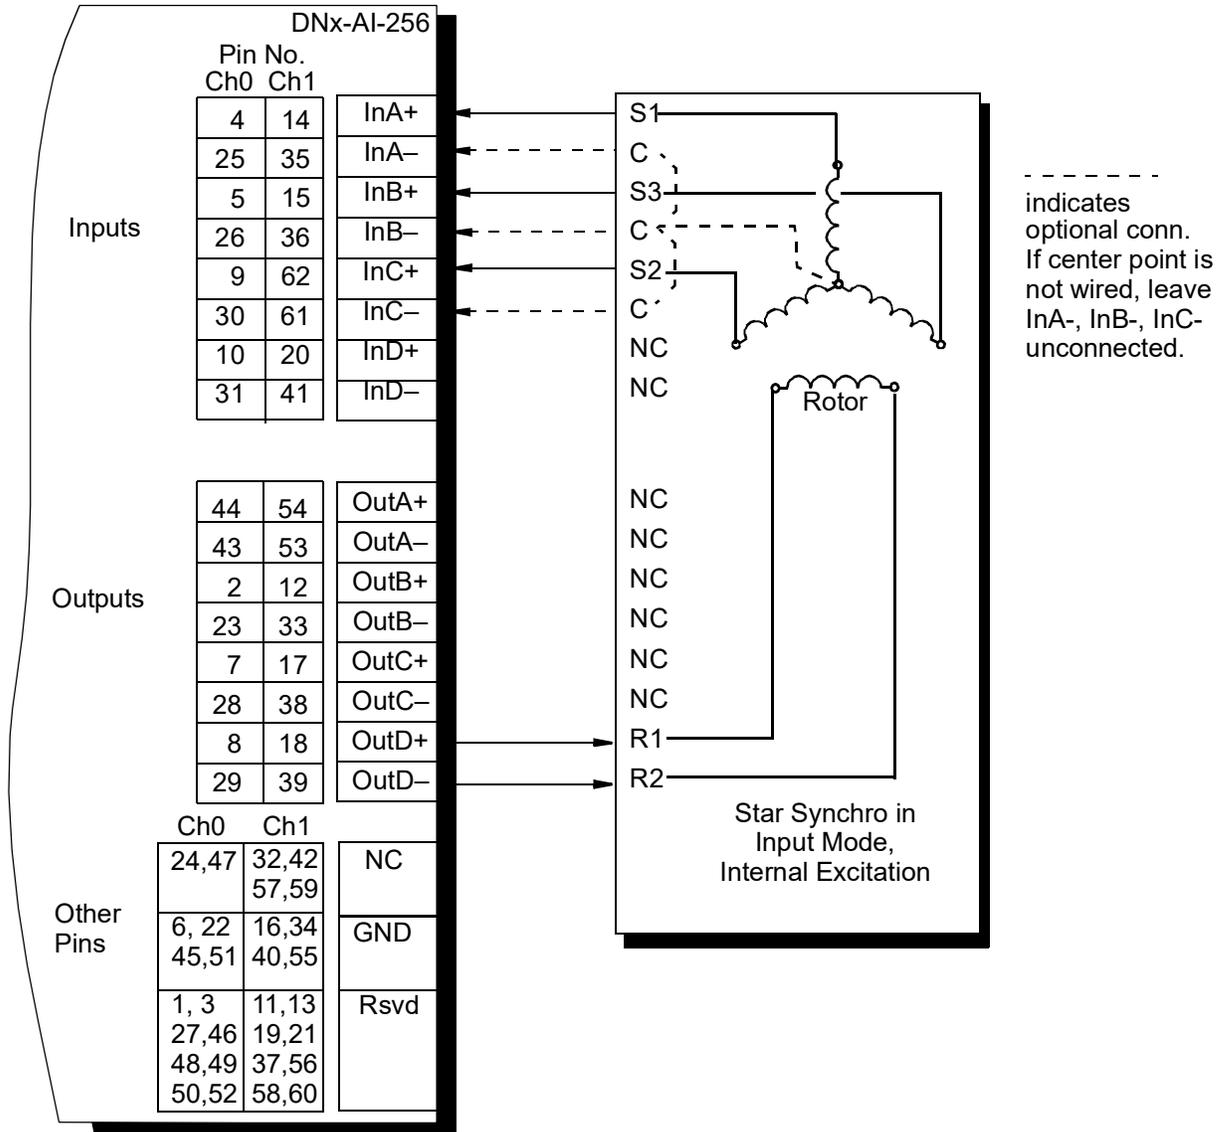
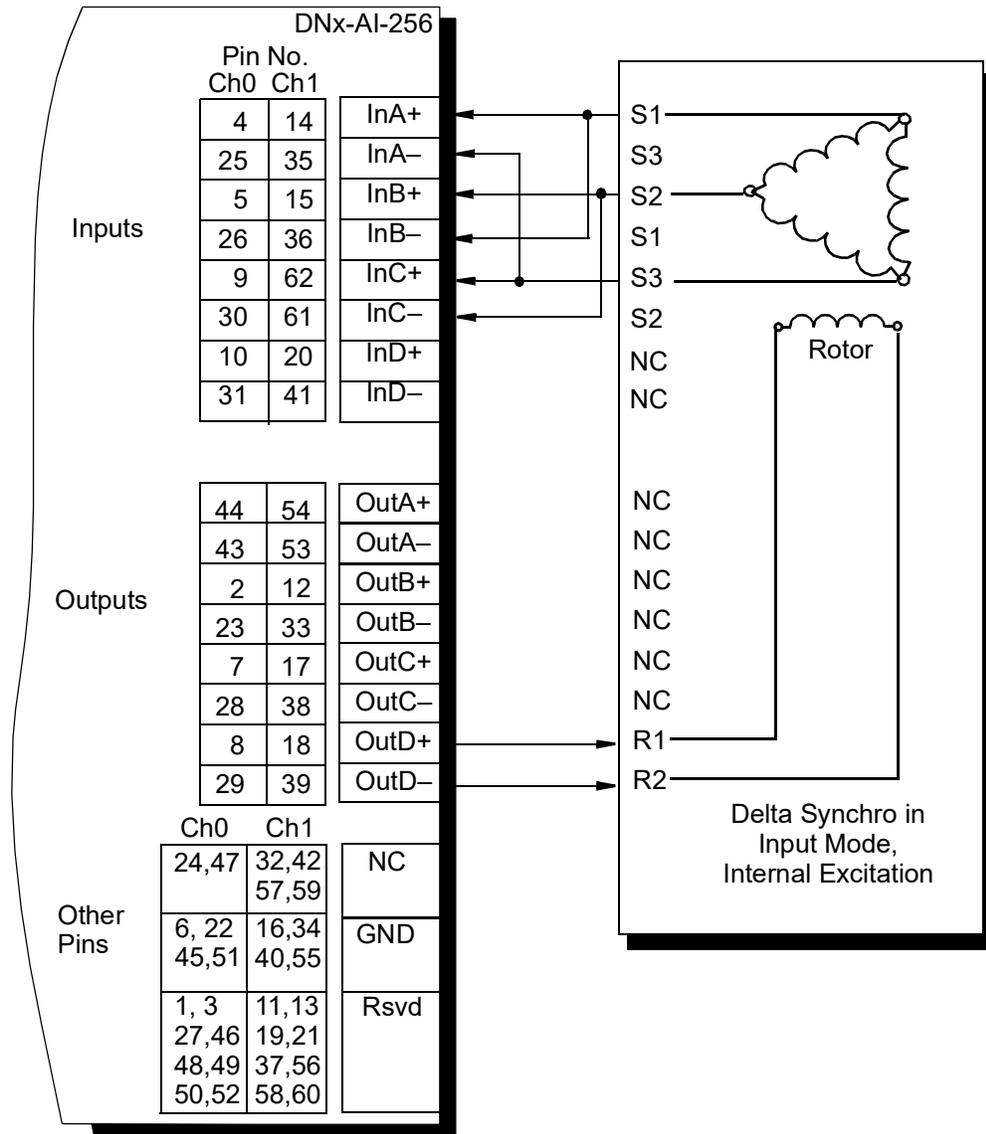

Figure B-1 Star Synchro: Input Mode, Internal Excitation
Figure B-2 Delta Synchro: Input Mode, Internal Excitation
- A.1 Synchro Input Mode with Internal Excitation** Set up AI-256 connections as shown in **Figure B-1** (star synchro) or **Figure B-2** (delta synchro) when a channel is configured for the following: